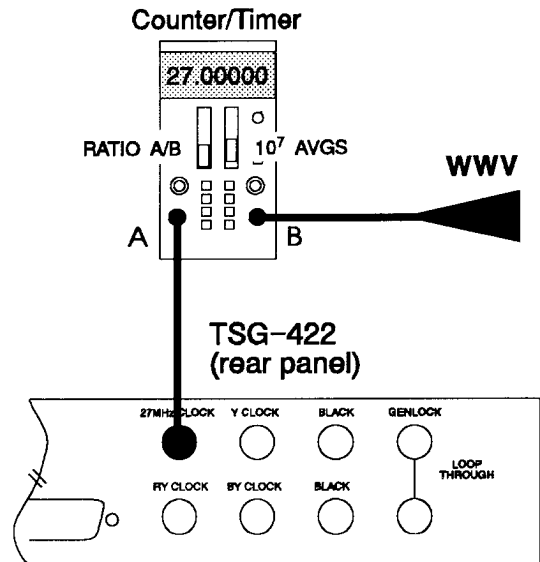

Fig. 5-16. Setup to adjust the oscillator
- Connect the equipment as shown in Fig. 5-16.